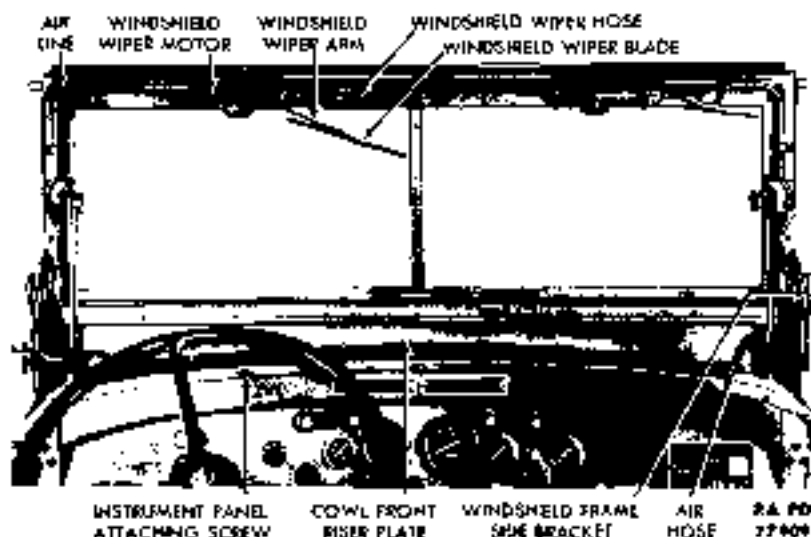

Figure 90 - Windshield Installed
(1) **DESCRIPTION** (fig. 90). A wiper is mounted at top center of each half of the divided windshield with an air-operated motor for each wiper supported by a bracket attached to the inside top of the windshield frame. The power of the motor is transmitted through a shaft extending from the motor to a wiper arm with movable blade attached outside the windshield. The operation of the wipers is controlled by two valves attached to the instrument panel (fig. 3).
b. **Maintenance** (fig. 90). Check air lines for plugged line or fittings, kinked hose or tubing, and leaks. Tighten all connections. Lubricate seal felts around shaft with light engine oil regularly. If wiper fails to operate after line has been thoroughly checked, replace motor assembly. Replace worn wiper blades.
c. **Removal** (fig. 90). Disconnect hose from air line. Remove the nut which secures wiper arm to motor shaft, and remove arm and blade as a unit. Remove the two screws and lock washers which secure motor bracket to windshield frame, and remove motor assembly.
d. **Installation** (fig. 90). Position wiper motor assembly on windshield frame, and secure with the two screws and lock washers. Position wiper arm to motor shaft, and secure with lock washer and nut. Connect hose to tube.
a. **Description** (fig. 90). The windshield is attached at the top rear of the cowl assembly with manually operated quadrant arms controlling opening of the windshield from the bottom outward.
b. **Removal** (fig. 90). Disconnect air hose front tube at each side of windshield. Remove the five hex cap screws and lock washers which
n. **Installation** (fig. 90). Position windshield assembly on cowl. Secure brackets to cowl with the 10 hex cap screws and lock washers. Install the 2 bolts, lock washers, and nuts which secure brackets to cowl front riser plate.